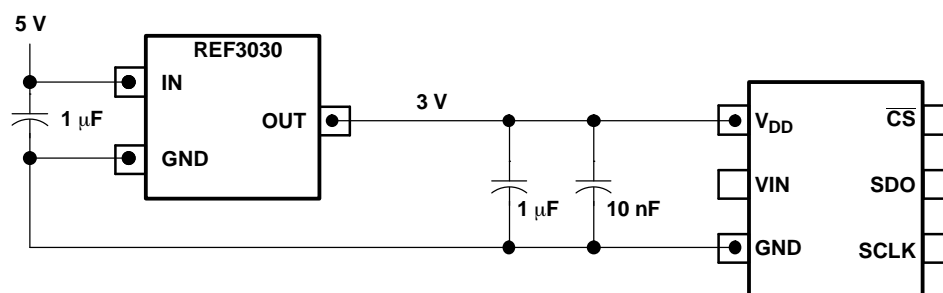

Figure 38. Using the REF3030 Reference
- A reference output from a low drift and low drop out reference voltage generator like REF3030 or REF3130. The ADS7887 and ADS7888 can operate off a wide range of supply voltages. The actual choice of the reference voltage generator would depend upon the system. Figure 38 shows one possible application circuit.